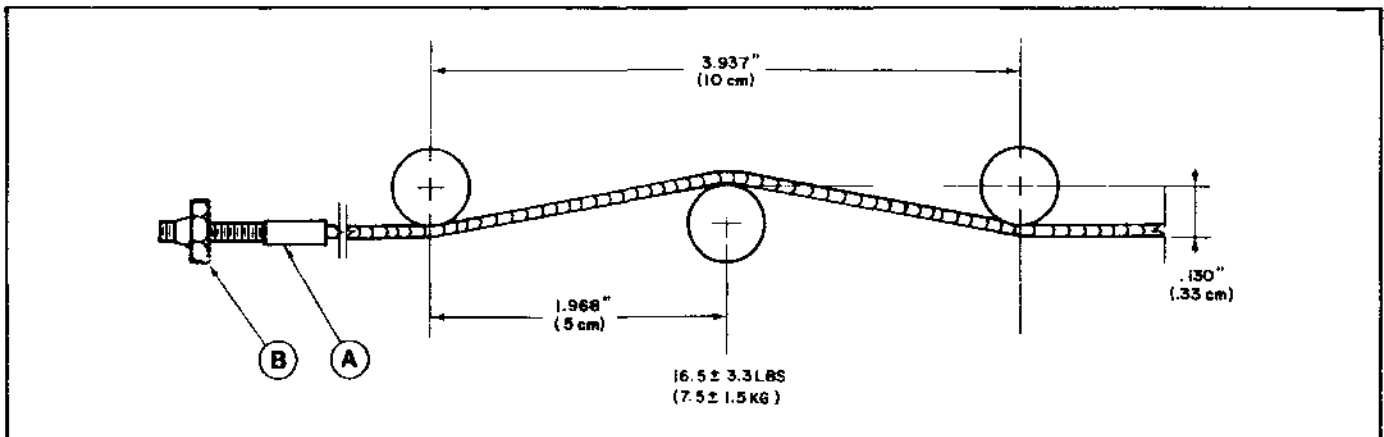

Figure 3-22. Carriage Drive Cable Adjustment
3.4.1.3 **CARRIAGE DRIVE CABLE (Figure 3-22)**